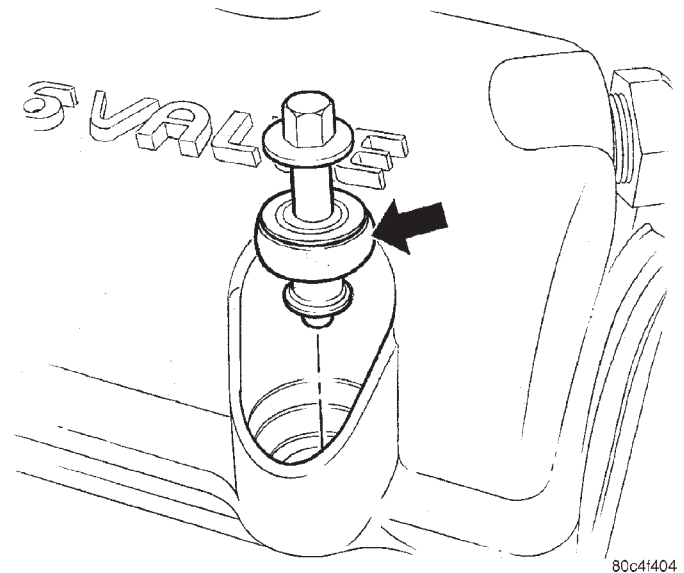

Fig. 31 Cylinder Head Cover Bolt Assembly
(2) Replace cylinder head cover bolt assemblies (Fig. 31).